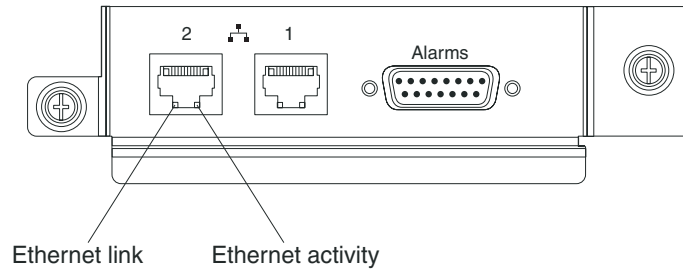

Figure 27. Ethernet LEDs
2. Check the Ethernet LEDs to make sure that the network connection is working. Figure 27 on page 48 shows the location of the Ethernet LEDs on the LAN module.